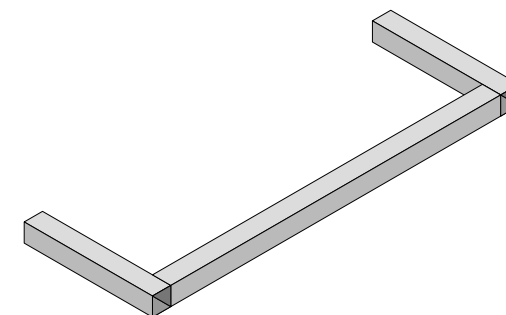

Figure 4: a U shaped end frame.
- 4) Then make up the U shaped end frames as shown in Figure 4. Again, make them as accurately as you can by building them on top of the H frames.